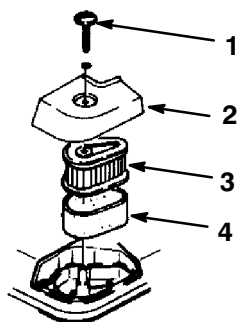

Figure 22
3. Remove the bolt that secures the air cleaner cover (Fig. 22).
4. Remove the cover and clean it thoroughly (Fig. 22).
5. Remove the foam pre-cleaner and wash it with a mild detergent and water, then blot it dry (Fig. 22).
7. Remove the paper air filter and discard it (Fig. 22).